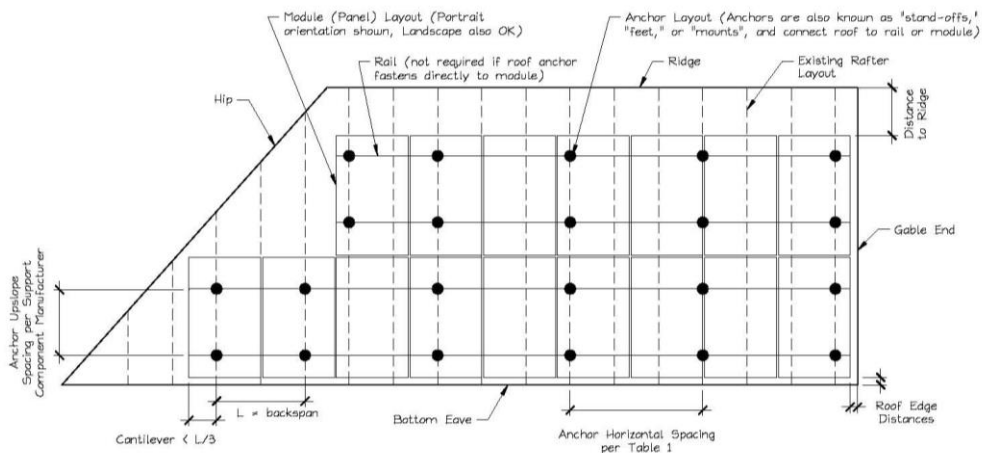

Figure 2. Sample Solar Panel Array and Anchor Layout Diagram (Roof Plan)
E. Is a roof plan of the module and anchor layout attached? (see Figure 2)
- 1) Proposed anchor horizontal spacing (see Figure 2): ft in
- Anchors are also known as "stand-offs," "feet," "mounts" or "points of attachment." Horizontal anchor spacing is also known as "cross-slope" or "east-west" anchor spacing (see Figure 2).